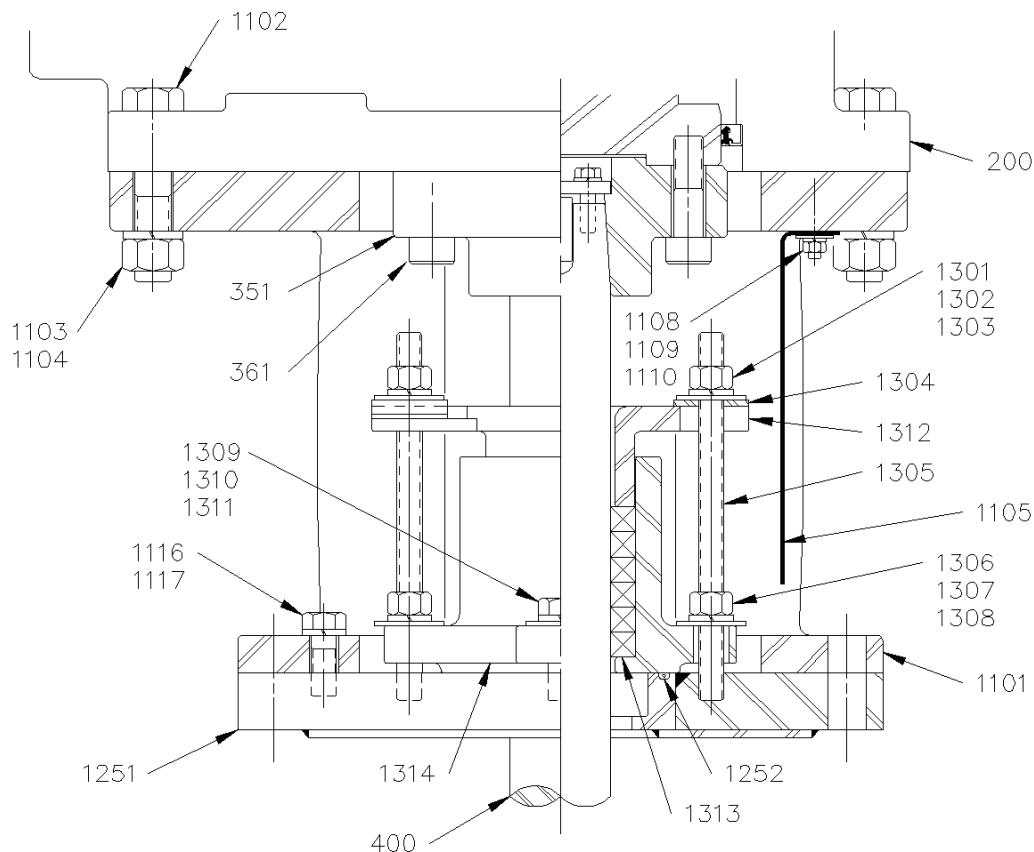
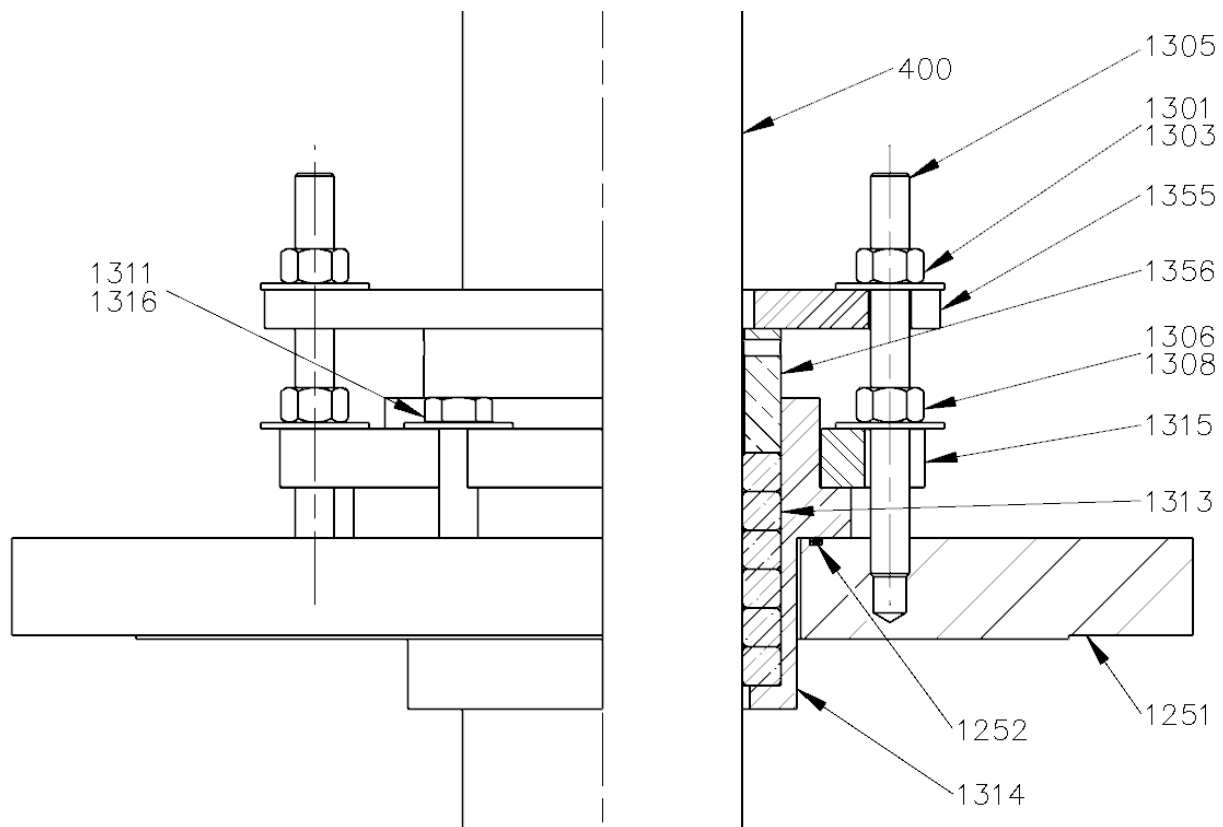

Figure 5. A Style – 6-Ring Stuffing Box
Figure 5B. Auxiliary Stuffing Box (fabricated housing)
Applicable to: Model 20 GTA, HTA. Examine Figure 5 and Figure 5B to determine which type of stuffing box was supplied with your unit.
8. Install split packing gland [1312] over threaded studs [1305] with gland clamps [1304], flatwashers [1303], lockwashers [1302], and hex adjusting nuts [1301]. Refer to Figure 5, page 19. The split packing gland must be square with the packing housing [1314]. Tighten bolts [1309] and nuts [1306]. Torque to the value shown in the APPENDIX, Page 96. Tighten the hex adjusting nuts.